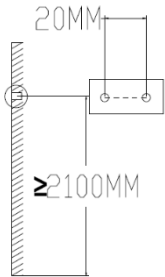

Figure 6
- Drill two holes with the same height at 2100mm (the height can be adjusted according to actual needs to suit your optimal requirements) from the ground, with the depth of 40mm and spacing of 20mm. As shown in Figure 6.